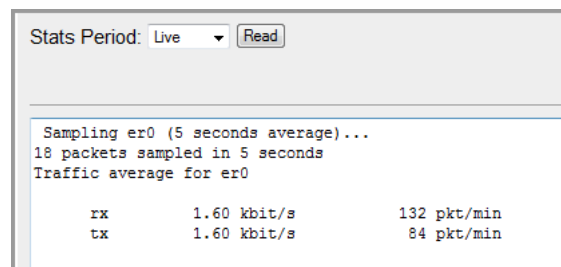

Figure 97 Live Statistics
- **Live**— This option displays the average transmit and receive data throughput in kbps and the number of data packets seen on the radio interface (er0), displayed in packet per minute. See Figure 97.